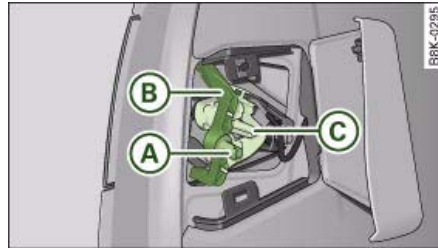

Fig. 279 Boot lid:
- Using the screwdriver, unscrew the nut ⇒ fig. 279 (A) in the anti-clockwise direction and remove the nut and the retaining clip (B).
- Release the retaining tab (C) and remove the bulb holder from the light unit.